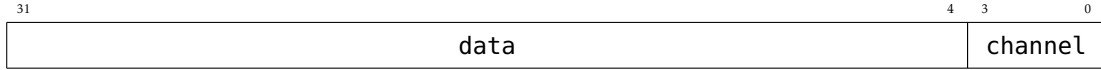

Figure 6: The Structure of a Mailbox Message
- MB0 Read Register (offset `0x00`): This facilitates reading messages sent from the GPU. The register will contain the message, with the structure of a message given in Figure 6. More on the structure of messages is explained below.
- MB0 Status Register (offset `0x18`): This register contains information about MB0. You need only worry about bit 30, the empty flag (E), which is set when the read register is empty.
Messages As mentioned previously, the CPU communicates back and forth with the mailboxes through *messages*. Messages are four bytes long, and have the following structure: the upper 28 bits are the actual data to be sent; the lower four bits dictate the *channel*, which tells the CPU/GPU what type of message is being sent. Figure 6 shows the general structure of a message, which is used in the read and write registers.